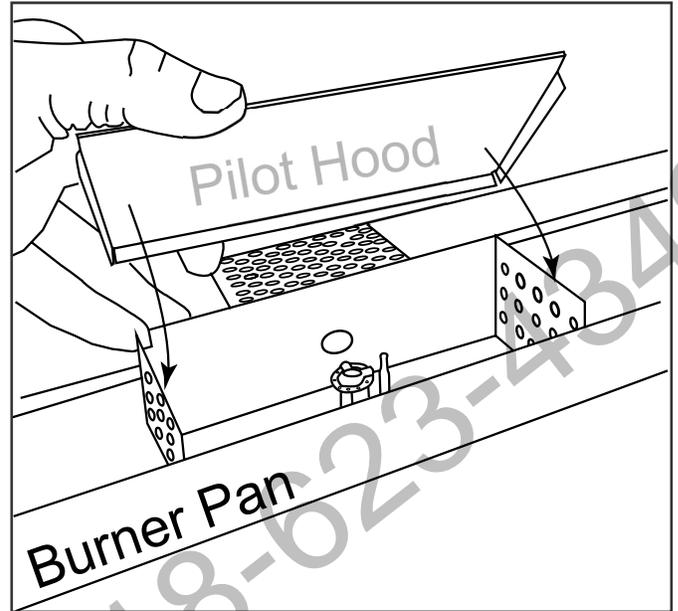
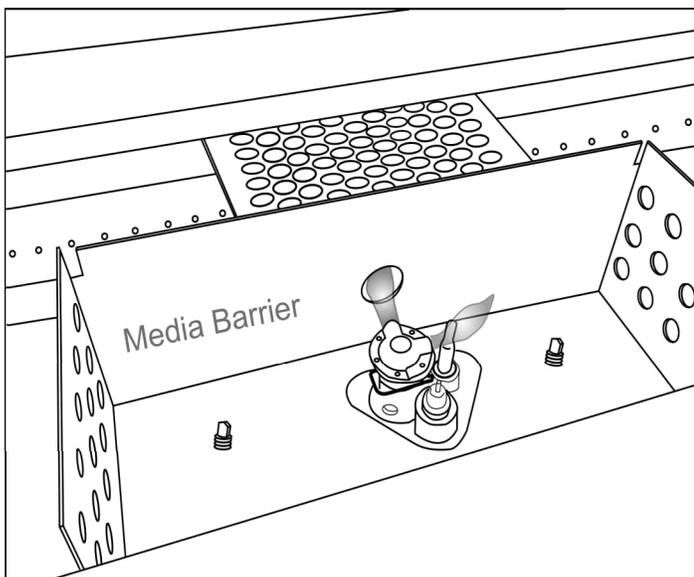
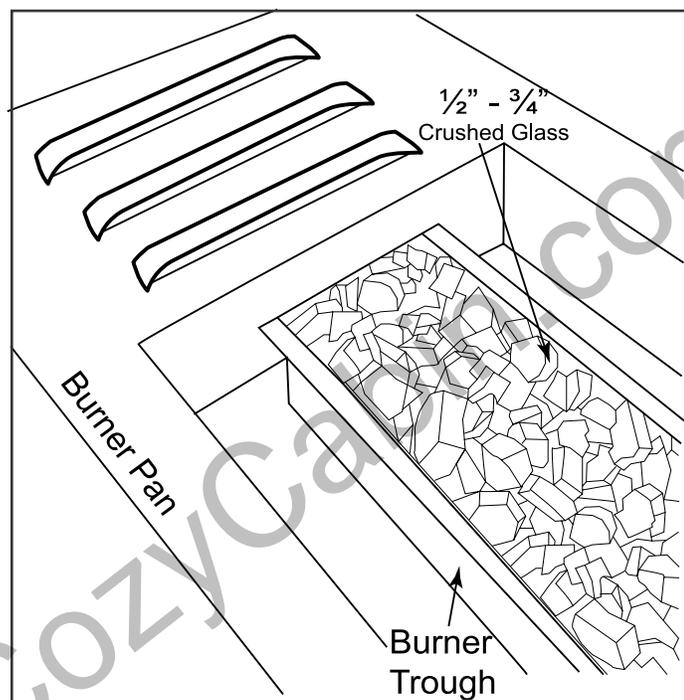

Figure 32 Pilot hood installing over top of pilot box.
Figure 34 Proper pilot flame through ignition hole.
Figure 35 Installing media into the fireplace.
Remove the plastic film from the pilot hood and place hood on top of the pilot box as shown in *Figure 32*.
Step 22: Place pilot hood on top of the pilot box and ensure it sits flat, providing ventilation for the pilot at the front edge of the burner pan. See *Figures 32 and 33*.
Step 24: Open the media box and install the glass media as shown in Figures 34 - 36. Place media fireglass into the trough area first as shown in Figure 35. Use the remaining media to fill the burner pan equally on both sides. Install only one layer over top of the ignition screen (Figure 32), just enough to camouflage it.